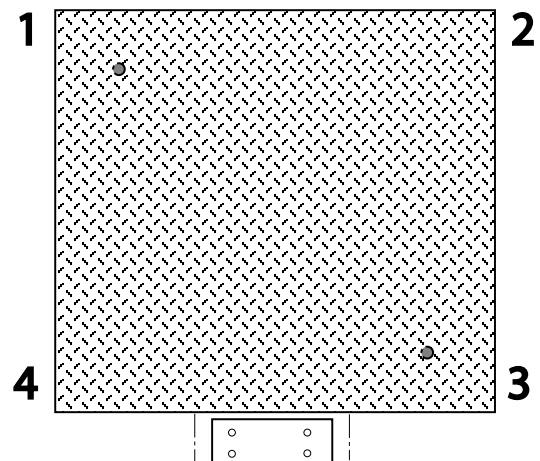

Figure 4-4. Corner Numbering - Top View
1. Remove the junction box cover and identify the correct load cell terminal corresponding to each corner (labeled CELL 1, CELL 2, and so on). See Figure 4-4 on page 14 for scale deck corner numbering.